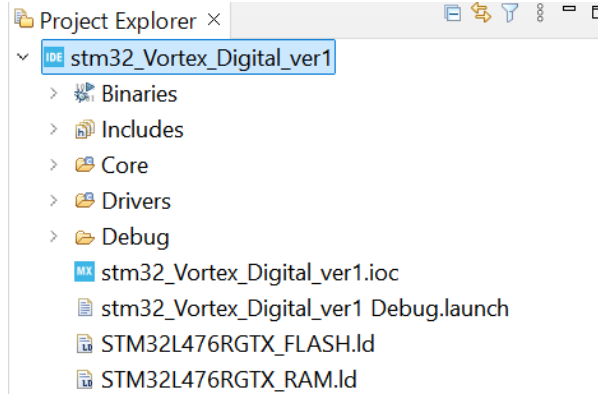

Figure 2: Screenshot of STM32CubeIDE after the user opens the project.
- **stm32.Vortex.Digital.ver1.zip:** We recommend that the user use **STM32CubeIDE** as the development environment. Move the extracted `stm32.Vortex.Digital.ver1` folder into the workspace directory of STM32CubeIDE, then open the project using the **"Import Projects from File System"** function. Once the project is opened, the **Solution Explorer** in STM32CubeIDE should appear as shown in Figure 2.